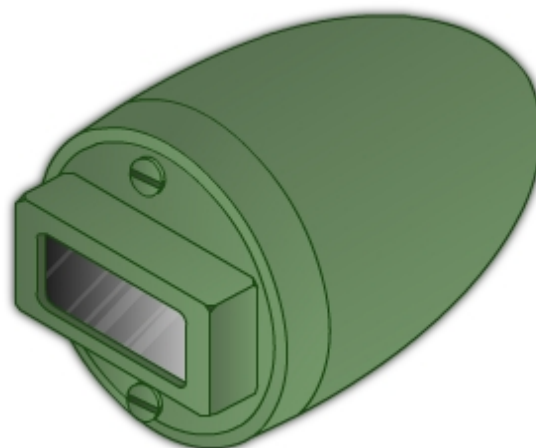

Figure 8-38 — Blackout marker light.
- The blackout stop/taillight and marker light are designed to be visible at a horizontal distance of 800 feet and not visible beyond 1,200 feet (*Figure 8-38*). The lights also must be invisible from the air above 400 feet with the vehicle on upgrades and downgrades of 20 percent. The horizontal beam cutoff for the lights is 60 degrees right and left of the beams center line at 100 feet.